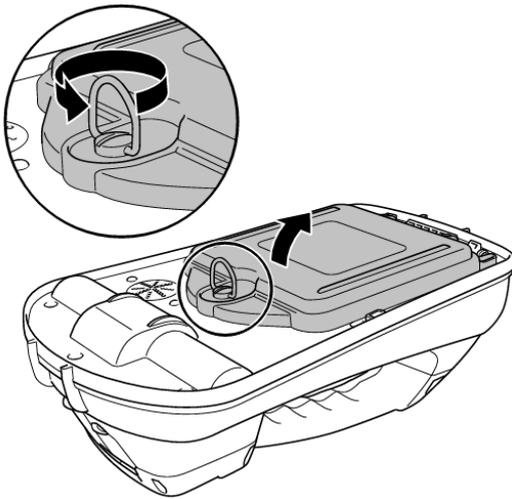

Figure 4.9: Opening the battery compartment
- 2 Turn the release catch, then open the battery compartment (fig 4.9)